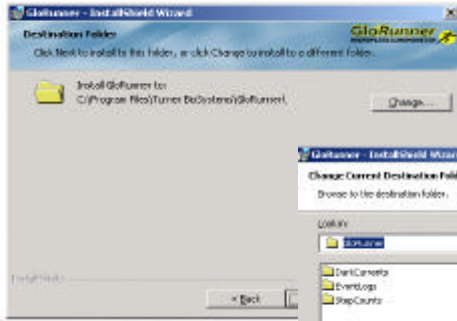
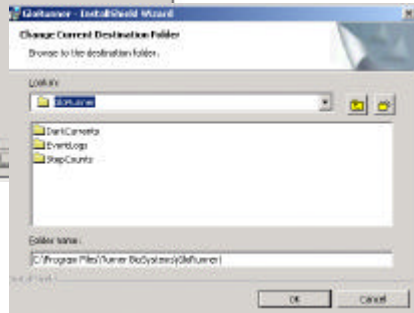

Figure 25
Figure 26
3. Follow the instructions given during the installation process. The default directory for installation is C:\Program Files\Turner BioSystems\GloRunner. To select an alternative directory, click on the “Change” button shown in Figure 25 and choose your directory option as seen in Figure 26. Click the “OK” button when you are ready to continue with the software installation.